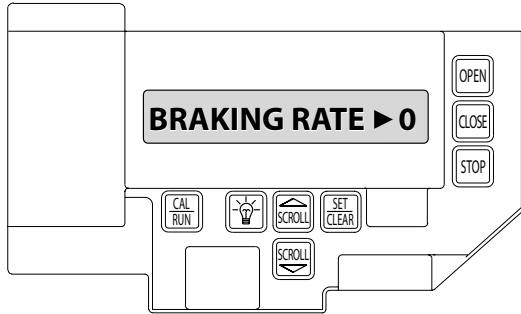

Fig. 5
- 2) Press Scroll until display reads "BRAKING RATE >#." where # is the deceleration rate, ranging from 0 to 9. 0=Max. braking. 9=Min. braking. Figure 5.